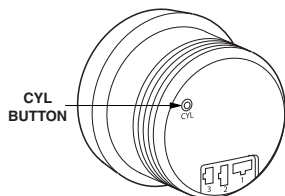

Figure 4
2. Remove power from the tachometer (turn ignition switch off). Press and hold the **CYL** button (small RED button on rear of tachometer, see Figure 4), then apply power to the tachometer (turn ignition switch on).